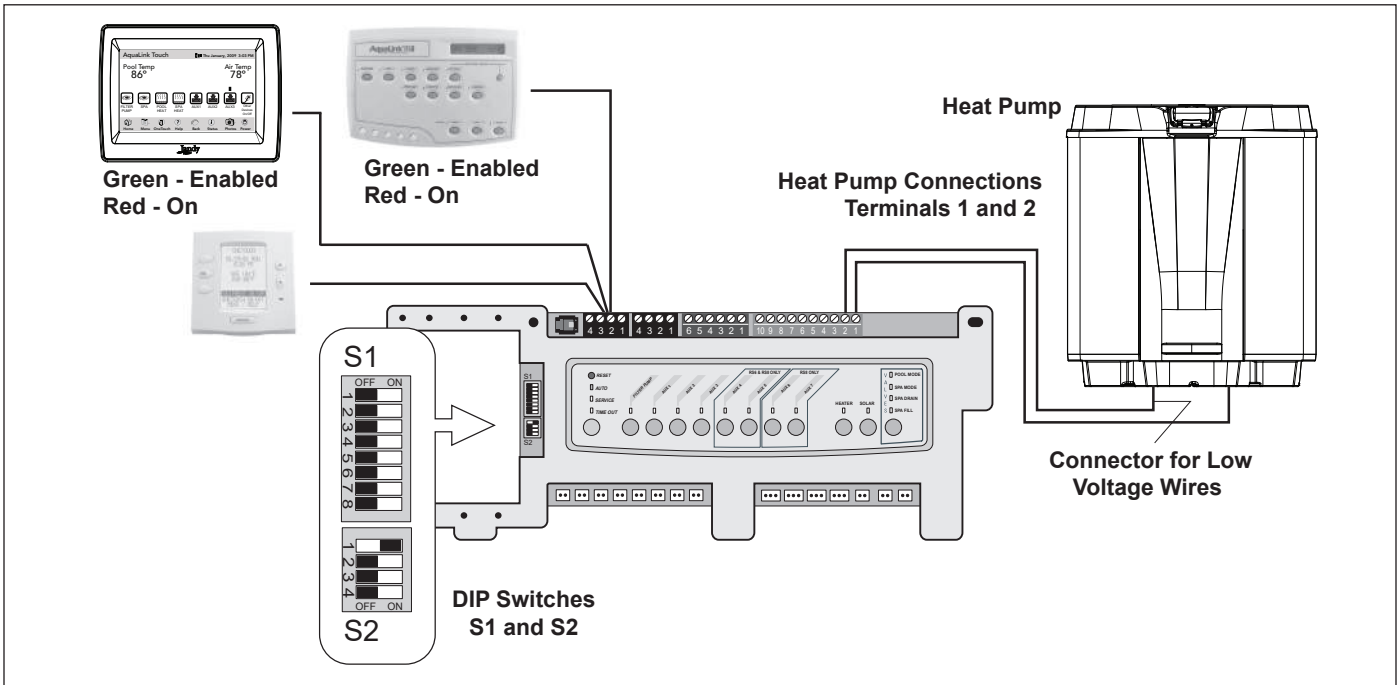

Figure 11. AquaLink RS to Jandy JRT Heat Pump - T-Stat (2 wire) connection
2. Connect two (2) wires to the AquaLink RS green 10-pin terminals 1 and 2.
3. Put DIP S2-1 (pin #1 of the 4 position DIP switch) into the ON position (see Figure 11).